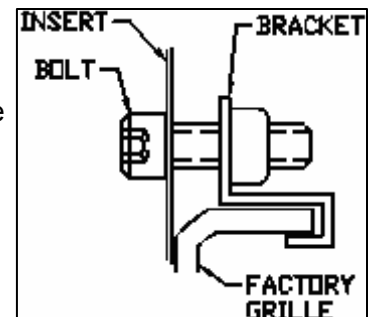

Fig. 1
Step 4b: Place the bolts through the mounting holes that are pre cut in the insert, place the bracket on the back so that it attaches to the grille (Fig.1). Finger tighten only.